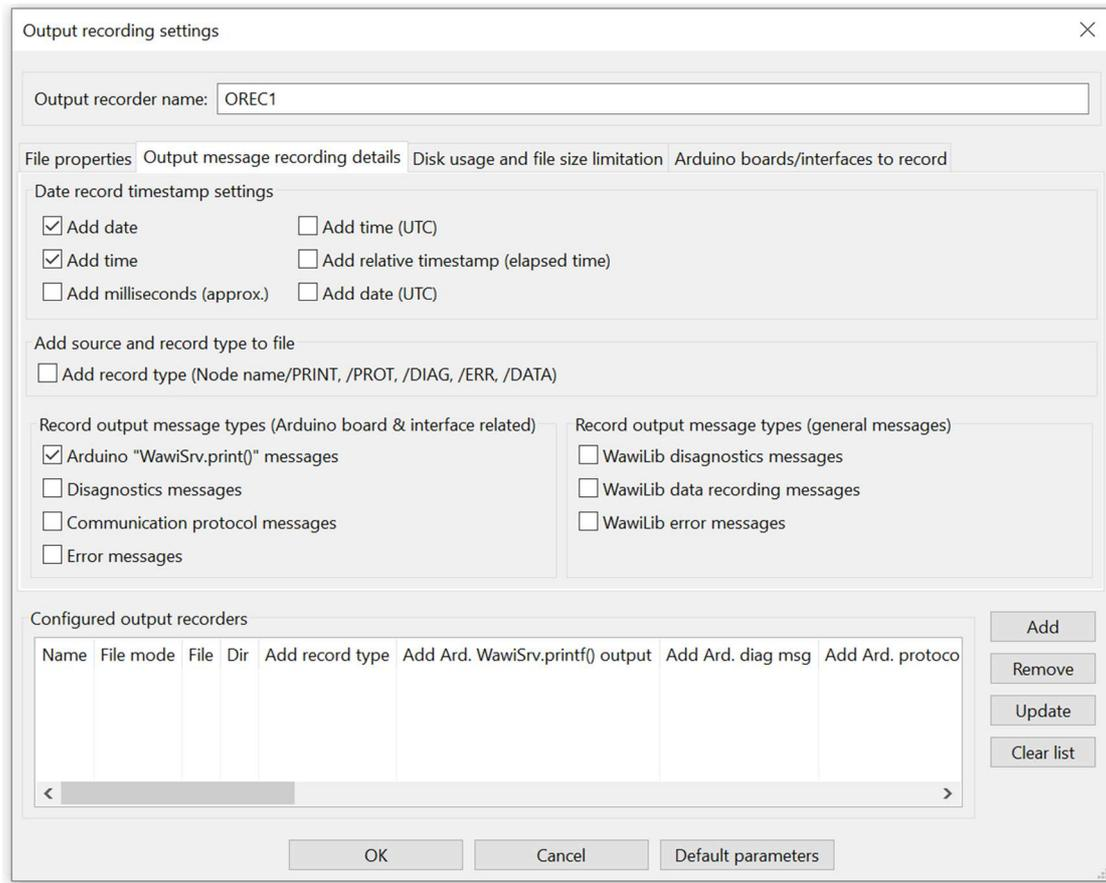

fig 9.2 Enable output “WawiSrv.print()” statements recording to disk file.
- ✓ Enable “Arduino WawiSrv.print() messages” recording (see fig. 9.2.)